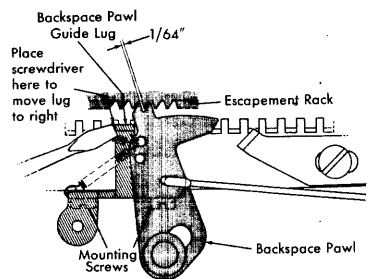

Figure 35. Backspace Guide Lug Adjustment
3. Adjust the lug, or backspace pawl guide by forming so that the pawl enters the escapement rack with about $\frac{1}{64}$ " clearance between the face of the pawl teeth and the face of the rack teeth (Figure 35).